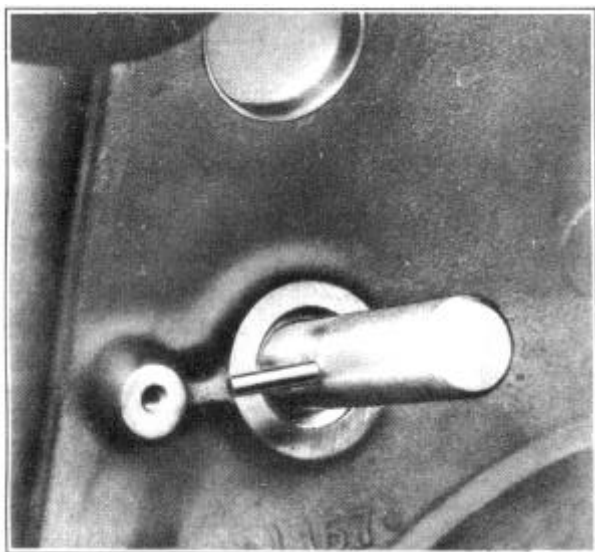

FIGURE 7
3. Insert aligning tool J-2794 in the distributor shaft hole with aligning pin in line with the distributor mounting screw hole, Figure 7.